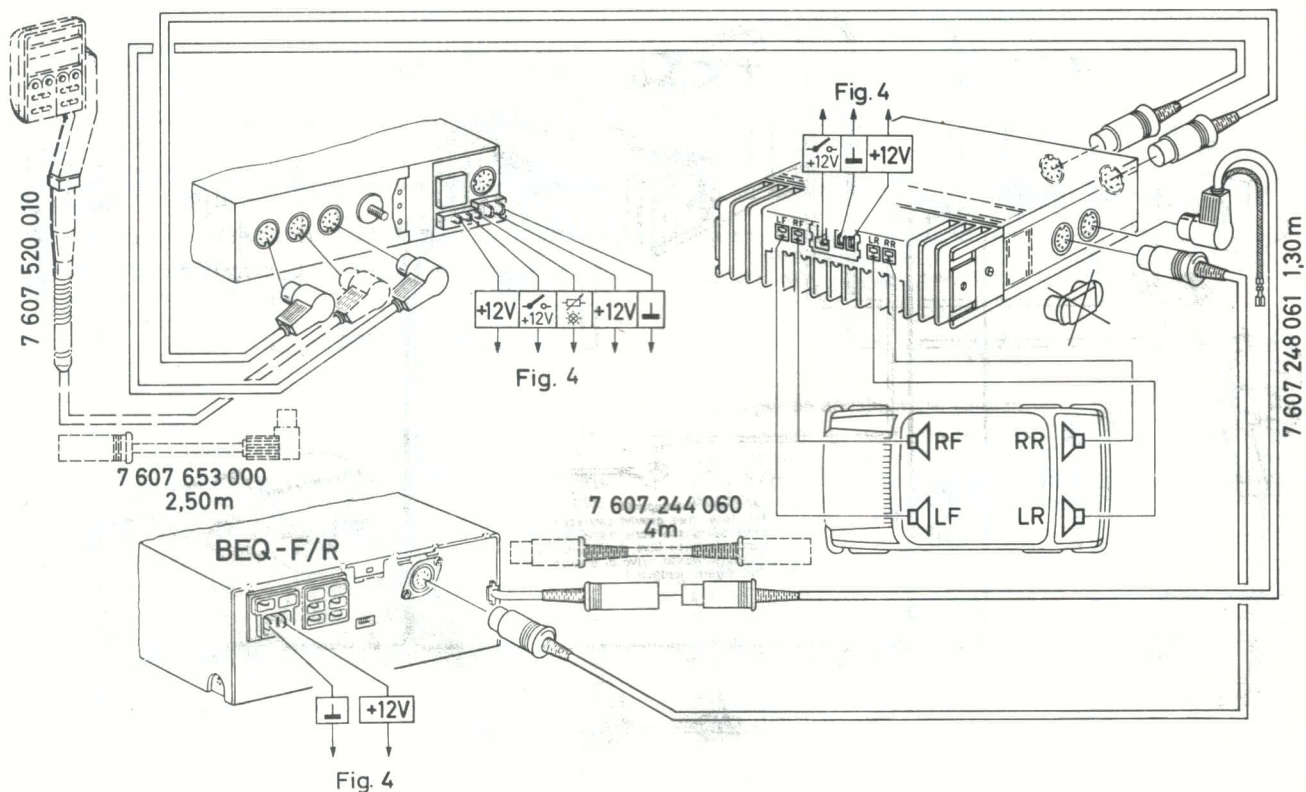

Fig. 7
Fig. 7 med equalizer (t.ex. BEQ-F/R)
- Fig. 7 met equalizer (b.v. BEQ-F/R)